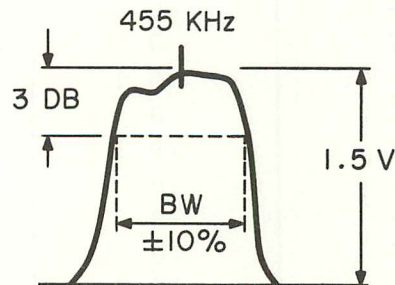

Figure 5-8. IF-112 Family AM Response.
- (2) Set oscilloscope for full scale horizontal sensitivity and 0.5 v/cm vertical sensitivity.
- (3) Adjust sweep generator frequency to 455 KHz and sweep rate to 15 Hz. Adjust output to display a 3 cm unsaturated oscilloscope response.
- (4) Adjust L3, L4 and L5 to achieve optimum amplitude of the response.
- (5) Turn mode selector to CW, a marker should appear on top of the response.
- (6) Turn mode selector to AM. Adjust C3 and C5 for minimum ripple on top of the response. The response should be similar to Figure 5-8.